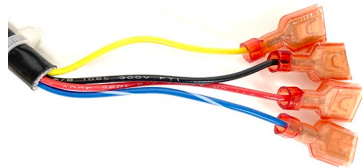

Figure 16
3. Terminate the stripped wires with the ¼" push on connectors (see Figure 16).
3. Terminate the stripped wires with the ¼" push on connectors (see Figure 16 above).